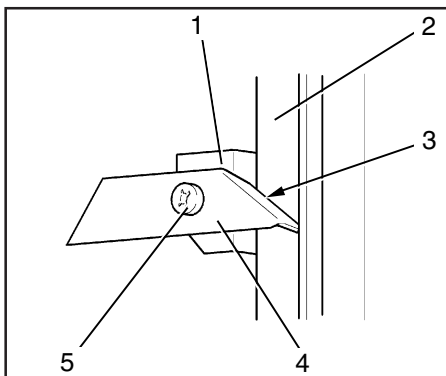

Fig. 21 Installation of a removable rail stop (top exit)
2. Install the pawl on the bracket with the Philips screw (21/5) as shown in Fig. 21. The bevelled area (21/3) must face the arrester rail.